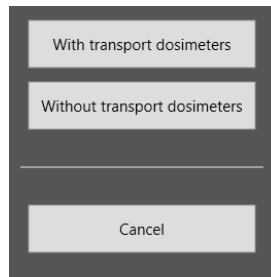

Figure 32 Select calibration with or without transport dosimeters
- 3) After clicking “Start new calibration”, it must be selected, if transport dosimeters are used or not (Figure 32)